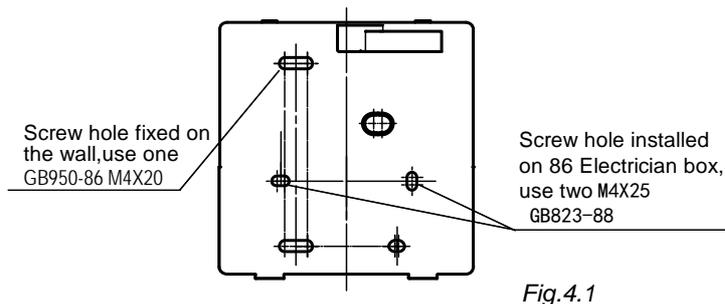

Fig.4.1
- Use two M4X25 GB823-88screws to install the back cover on the 86 electrician box, and use one GB950-86 M4X20 screw for fixing on the wall. (Fig.4.1)